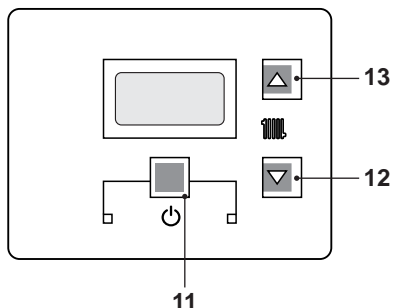
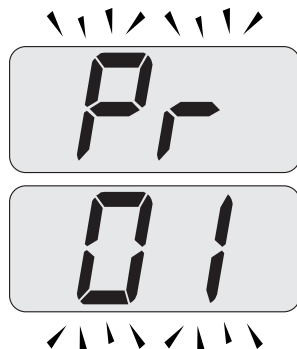

Fig. 9.11
Fig. 9.12
- Enter in "programming mode" by pressing keys 11 - 12 - 13 (Fig. 9.11) for 10 seconds at the same time until the letters **Pr** that alternate with code **01** are displayed on the LCD display, indicating that "parameter 01"(Fig. 9.12) has been activated.
- Press keys 12 and 13 (Fig. 9.11) at the same time until the LCD display displays the letters **LP** that alternate with the heating water temperature value (e.g.**45**), indicating the activation of the "chimney sweep function" at minimum output (Fig. 9.13).
- Press keys 11 - 12 - 13 (Fig. 9.11) at the same time again to exit the "chimney sweep mode" and return to the previously set boiler status (Fig. 9.16).